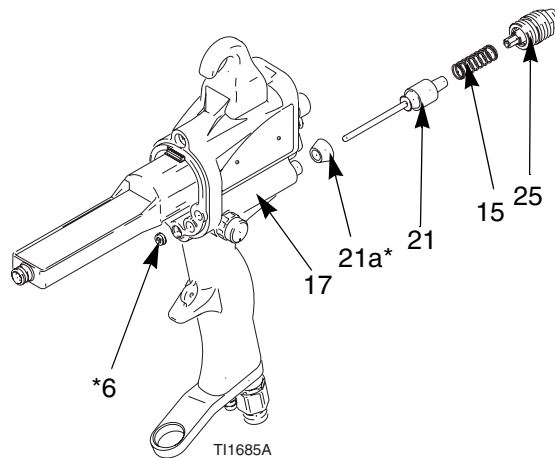

Fig. 33. Air Valve
3. Remove the fluid adjustment valve (25) from the handle (17). Remove the spring (15). See FIG. 33..